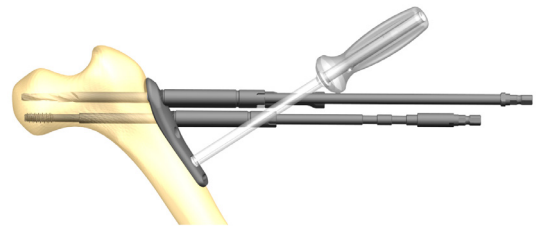

Figure 21
13. Remove the 2.8mm Guide Pin Insert from the Proximal Locking Screw Drill Guide and drill over the 2.8mm Guide Pin with the Proximal Drill (Figure 21).